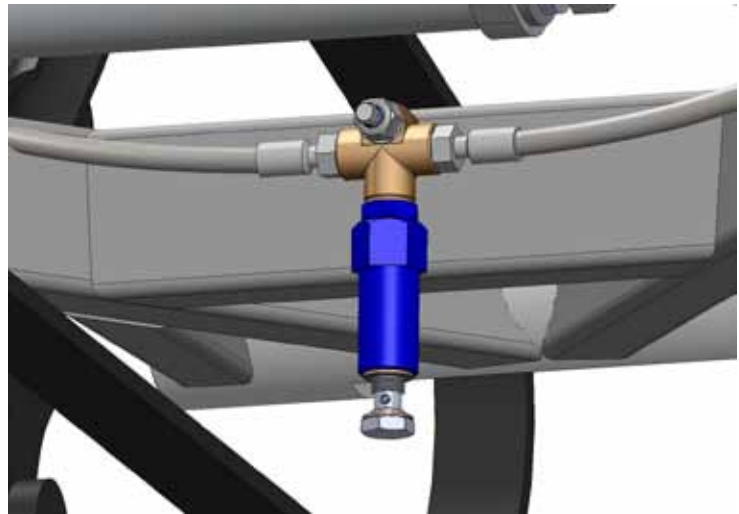

Figure 18
Note: You may have a clearance issue with the Anti-roll bar housing and Factory Harley chassis tab. Trim Tab as necessary. Figure 18
- b. Connect OEM brake line from rear master cylinder to Brake Pressure Residual Valve using 10mm single banjo bolt and two crush washers. Torque down to 17 to 19 Foot Pounds. **Figure 18.**